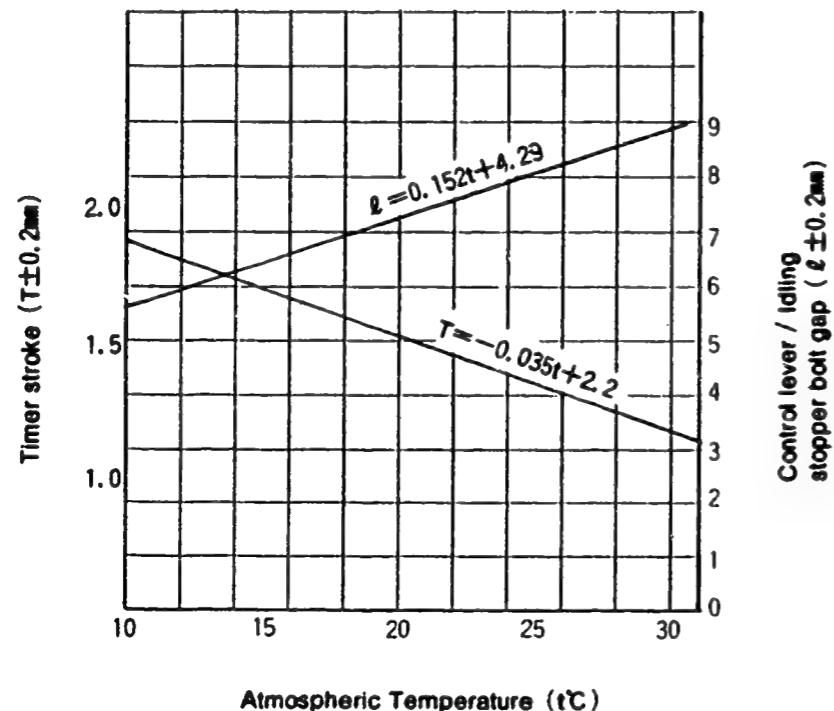

Fig. 2
① Using the graph (Fig 2), determine the Timer Stroke according to the atmospheric temperature at the time of adjustment.
② Adjust using the Timer Stroke adjusting bolt so that the Timer Stroke corresponds to the value determined in note ① above.
- ① Insert a block gauge of 5.3 ± 0.05 mm thickness in the gap between the control lever and the idling stopper bolt.
- ② From Fig 2 determine the dimension of the gap between the idling lever pin and the control lever according to the atmospheric temperature at the time of adjustment.
- ③ Adjust using the fast idle adjusting screw so that the gap corresponds to the value determined in note 2) ② above.